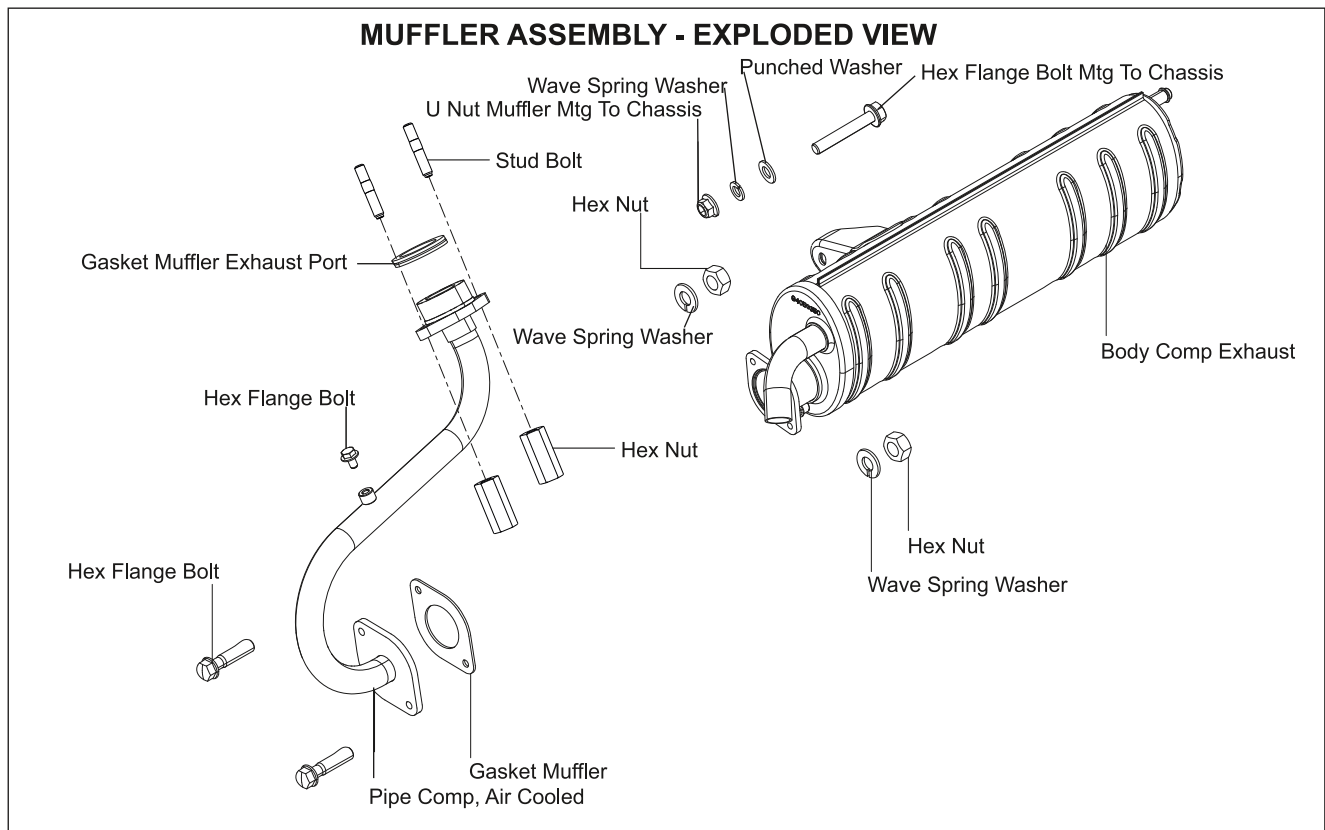

Fig. 4.32
- Separate the exhaust assembly along with catalytic converter from body exhaust. (Fig. 4.32)
- While reassembly, replace the gasket, exhaust port and gasket exhaust. (Fig. 4.32)